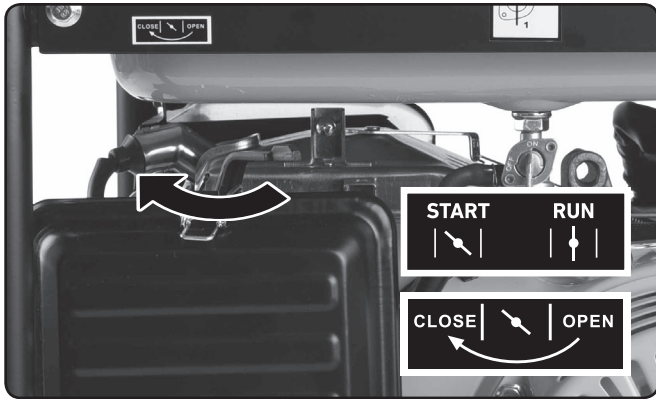

Fig. 16, setting the choke lever to the "start" or "close" position according to the label.
9. Set the choke control lever to the "start" or "close" position according to the text on the label that is located on the machine, see fig. 16.